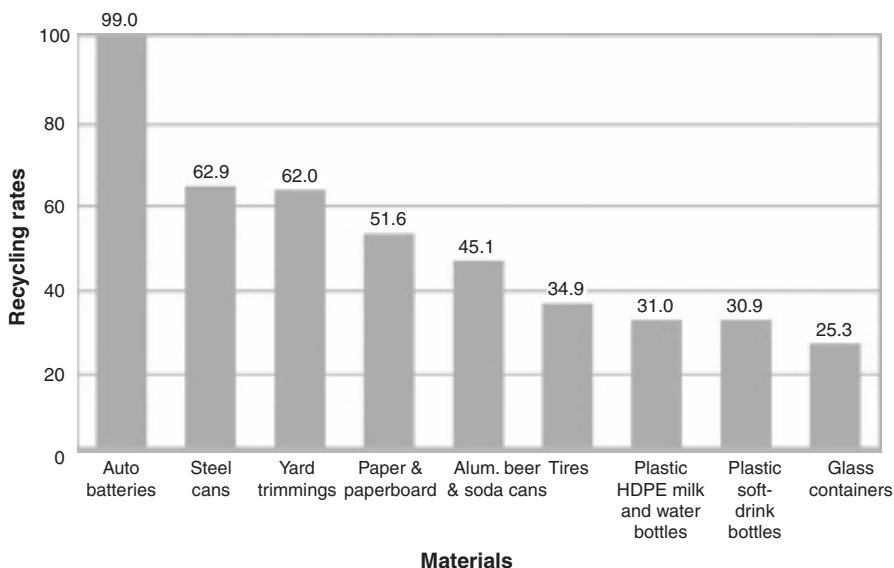

Figure 11.5
Recycling may be lower on the WMH than P2 or reuse (and remanufacturing), but it is vital. Its environmental benefits include saving resources, using less energy, and producing less pollution than making a product from virgin resources.20 Recycling also provides jobs. About 8500 US curbside recycling programs existed in 2005. These serve over half the population, and 84% of US cities. Recyclables could be dropped off at 12 000 other sites. Materials collected include paper, steel (tin) and aluminum cans, glass containers, plastic containers (especially #1 and #2) and waste oil (**Figure 11.5**). Although the US recycling rate increased sharply in the years before 2000, it has since almost leveled off and in 2007 was only 32.5%. However, some cities, San Francisco is one, has a 69% recycling rate; this city does not ask citizens to separate recyclables, but collects them in a single stream which are later sorted in a facility that combines machine and human separators. One way the city
Also see Figure 11.5 and see Wastes quick finder, A-Z topics. *US EPA*. <http://www.epa.gov/epawaste/index.htm>
- **Plastics**25 The world produces 250 billion pounds (~113 billion kg) of plastic pellets a year. It is from these that all plastic products or plastic composite products are made from soft-drink bottles to medical equipment or cars. Plastic discards in US MSW were less than 1% by weight in 1960, but by 2006 they were 11.7%. See Box 11.3. Types of plastics included 14 million tons (12.7 million tonnes) as containers and packaging, over 6 million tons (5.4 million tonnes) as nondurable goods, and about 9 million tons (8.2 million tonnes) as durable goods. In the 11 US states in 2008 that charged deposits on beverage containers – plastic bottles and aluminum cans – recycling rates are higher than in states without deposits. Deposits are returned when the bottles are returned.26 In states with deposits, more people save containers to get their money back; others add to their incomes by collecting plastic bottles and aluminum cans discarded by others. Some of the 11 states are working to increase the deposit charged; yet other states are introducing bills to start charging deposits. The average rate of recycling plastic bottles remains low (Figure 11.5). Only about 4% of plastics in the MSW stream are recycled; however, the figure for two specific plastics is higher. The rate for polyethylene terephthalate (PET) soft-drink bottles was 31% in 2007, and recovery of HDPE milk and water bottles about 31%. Recycling the PET used to make soft-drink bottles uses 47% less energy than making it from raw materials. ■ Recycling plastics poses challenges. One is collecting and separating multiple types of plastics. Another is recovering plastics from products more complicated than plastic bottles or other simple plastic products. An instance is the tens of millions of plastic casings on computers that are discarded in increasing quantities. It's even more difficult to recover plastic from composite products where plastic is only part of the composition. ■ However, once discarded plastic has been collected and sorted, it is valuable and goes into products such as Tyvek™ (disposable medical suits and insulation), fleece garments, plastic lumber, and water-repellent coatings for shipping boxes, and asphalt too. Compared to other products, plastics are often more durable, perform better, or weigh less than counterparts made from other materials. For example, plastic lumber can last much longer than real wood. Although valuable, businesses often cannot be assured of a dependable supply of used plastics. Moreover, the price that plastic recyclers pay varies with the price of oil. Most common plastics are thermoplastics; that is, they can be melted down and reshaped into new plastic products.